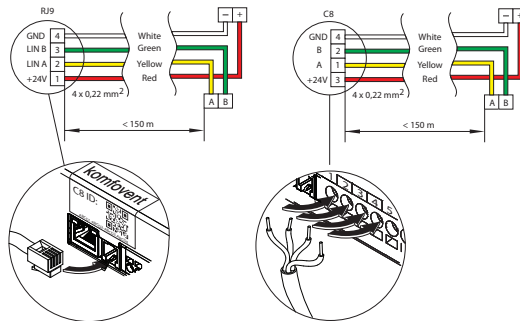

Fig. 14. Control panel cable wiring diagram
- Control panel (see Fig. 14)
- **Outputs TG1 (6–8)** – Power supply and control signal for a water mixing valve actuator of the external heat exchanger or direct evaporation (DX) cooler/heater. Depending on the “External coil” type selected in the settings (see “Domekt User Guide”), the valve actuator will be controlled by a heating or cooling signal.
Control panel cable is connected to the C8 main board as shown in Fig. 14. If needed, the panel cable can be also connected to an external RJ10 connector.